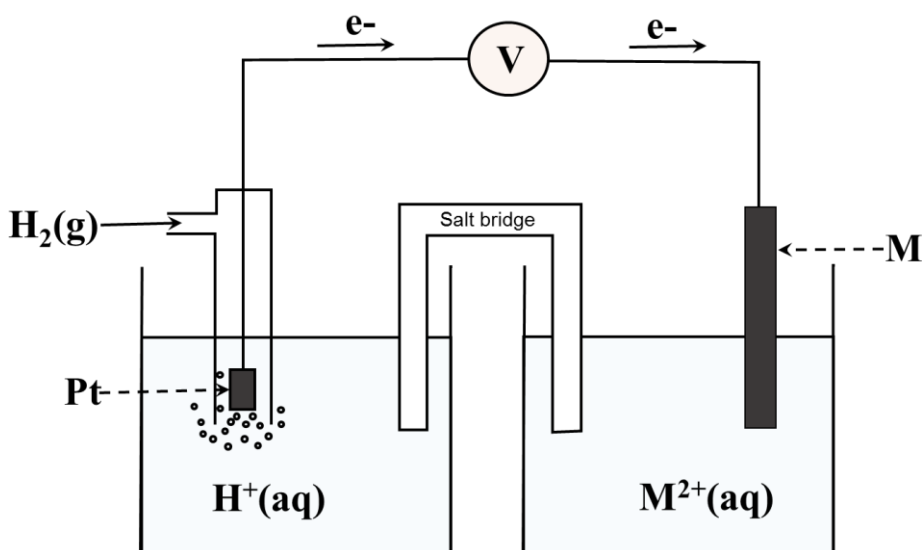

Figure 1 The galvanic cell
The experiment is performed at 30.00°C. The electrochemical cell is composed of a hydrogen half-cell $[\text{Pt}(s) | \text{H}_2(g) | \text{H}^+(aq)]$ containing a metal platinum electrode immersed in a buffer solution under a pressure of hydrogen gas. This hydrogen half-cell is connected to a half-cell of a metal (M) strip dipped in an unknown concentration of $\text{M}^{2+}(aq)$ solution. The two half-cells are connected *via* a salt bridge as shown in Figure 1.
4-A3) The unknown concentration of $M^{2+}(aq)$ solution in the cell (Figure 1) can be analyzed by iodometric titration. A 25.00 cm^3 aliquot of $M^{2+}(aq)$ solution is added into a conical flask and an excess of KI added. 25.05 cm^3 of a 0.800 mol dm^{-3} sodium thiosulfate is required to reach the equivalent point. Write all the redox reactions associated with this titration and calculate the concentration of $M^{2+}(aq)$ solution.
4-A4) In Figure 1, if the hydrogen half-cell is under 0.360 bar hydrogen gas and the platinum electrode is immersed in a 500 cm³ buffer solution containing 0.050 mol lactic acid (HC₃H₅O₃) and 0.025 mol sodium lactate (C₃H₅O₃Na), the electromotive force of the galvanic cell measured is +0.534 V. Calculate the pH of the buffer solution and the dissociation constant (*K_a*) of lactic acid at 30.00°C.